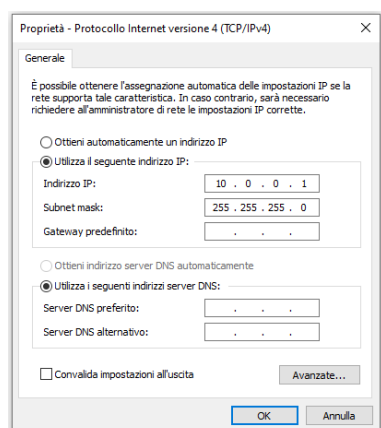

Fig. 5.10: Windows "Internet Protocol Version (TCP/IPv4) Properties"
5. Configure the "Internet Protocol Version (TCP/IPv4) Properties" as in **Fig. 5.10**.